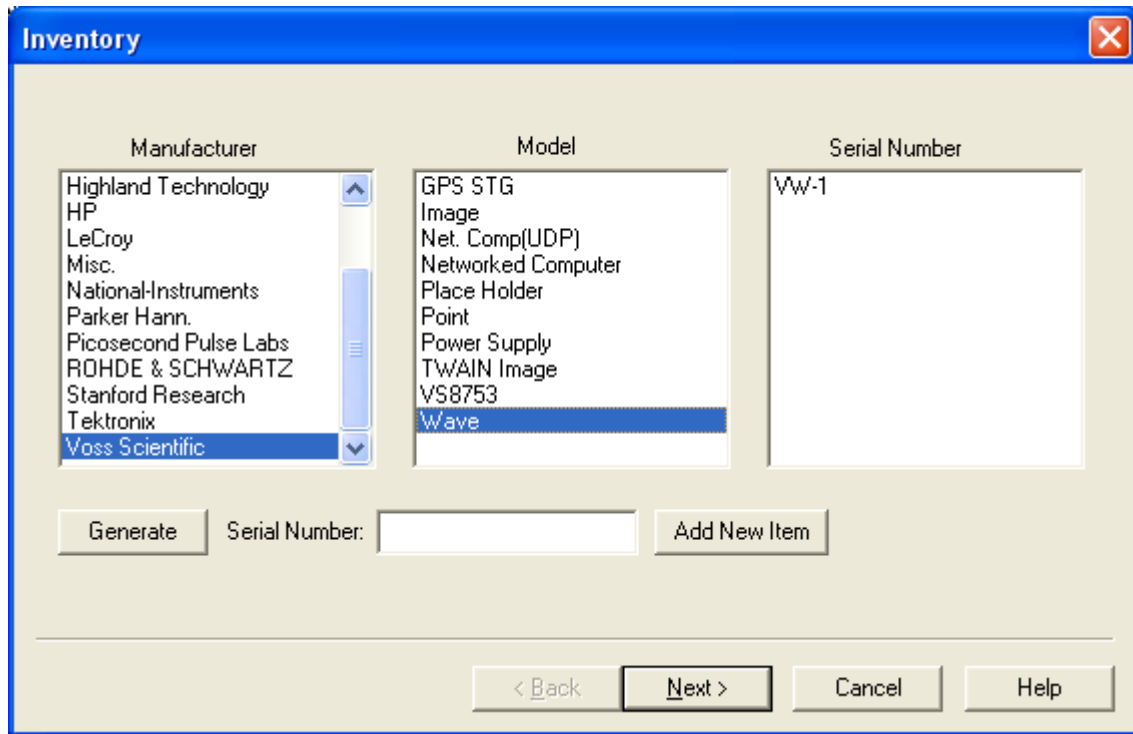

Figure 4-3 - Database Inventory Dialog
2. The dialog of Figure 4-3 appears. The lists that appear under Manufacturer and Model will depend on the drivers allowed by the installed DAAAC keys. The list under Serial Number will depend on the selected items under Manufacturer and Model and instruments that have already been set into the inventory.
1. Select an instrument, by serial number, from the Serial Number control in Figure 4-3.